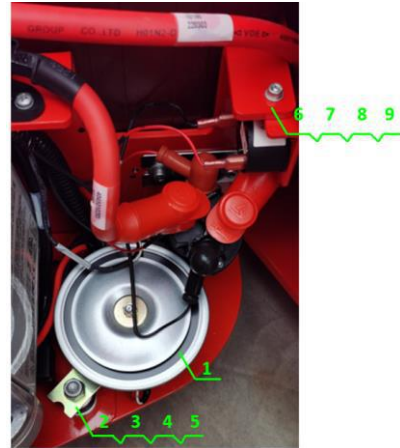

Fig. 5.2 S1932E horn and buzzer
1. Take the buzzer (Part 7) and assemble it to the buzzer mounting plate (Part 6), as shown in the figure above, and tighten it; Take the bolt (part 3) and the washer (part 2) to fix the upper combination and the horn (part 1) to the battery side, as shown in Fig. 5.2, and tighten them;